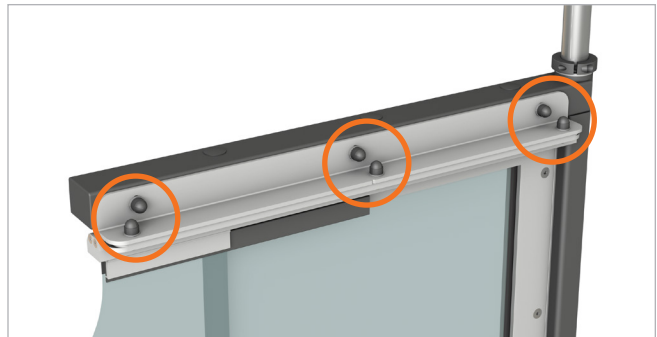

Figure 1 – Removal/replacement of plastic nut covers.
7. Replace the plastic nut covers upon completion of adjustments. See **Figure 1**.